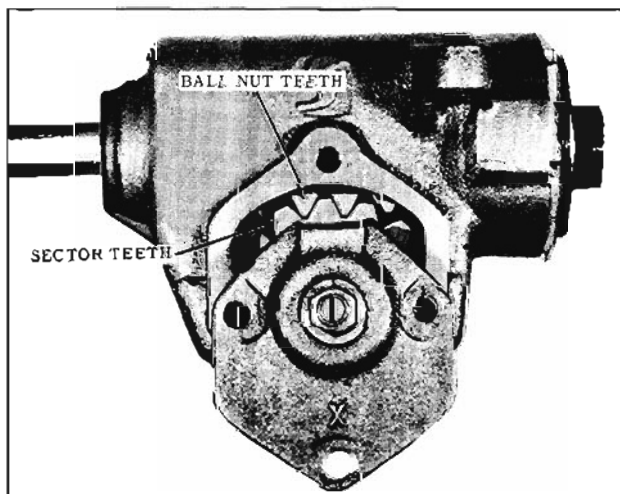

Fig. 8-19 Sector and Ball Nut Centered
3. Install pitman shaft and side cover assembly and gasket, with sector and ball nut teeth centered as shown in Fig. 8-19. Torque side cover bolts 20 to 22 ft. lbs.